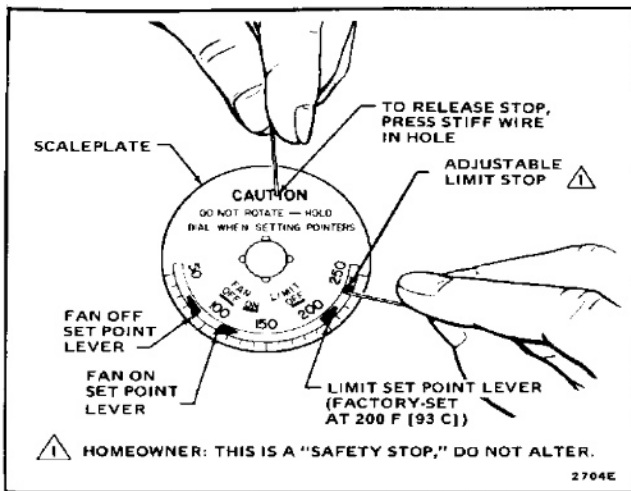

FIG. 14—CHANGING THE HIGH LIMIT STOP.
When adjusting the fan and limit set point lever (Fig. 14), hold the scaleplate dial to keep it from turning and straining the sensing element.
1. Push a stiff wire through hole in scaleplate to depress the stop disc not more than 1/16 in. [1.6 mm] to release stop lock (Fig. 14). Stop disc is on back of scaleplate.
2. When depressing the stop disc, insert another stiff wire next to limit stop (Fig. 14) and use this wire to move stop to desired setting. If the L4064 is a replacement control, the high limit stop setting should be the same as that of the control being replaced. (Move stop clockwise to lower the setting, counterclockwise to raise it.) Then remove both wires.